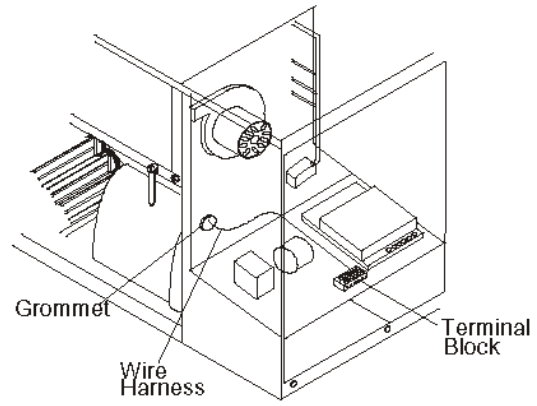

Figure 13: Installing Terminal Block
15. Place the terminal block in the open area at the predrilled holes as shown in Figure 13. Secure using two screws provided with the terminal block.